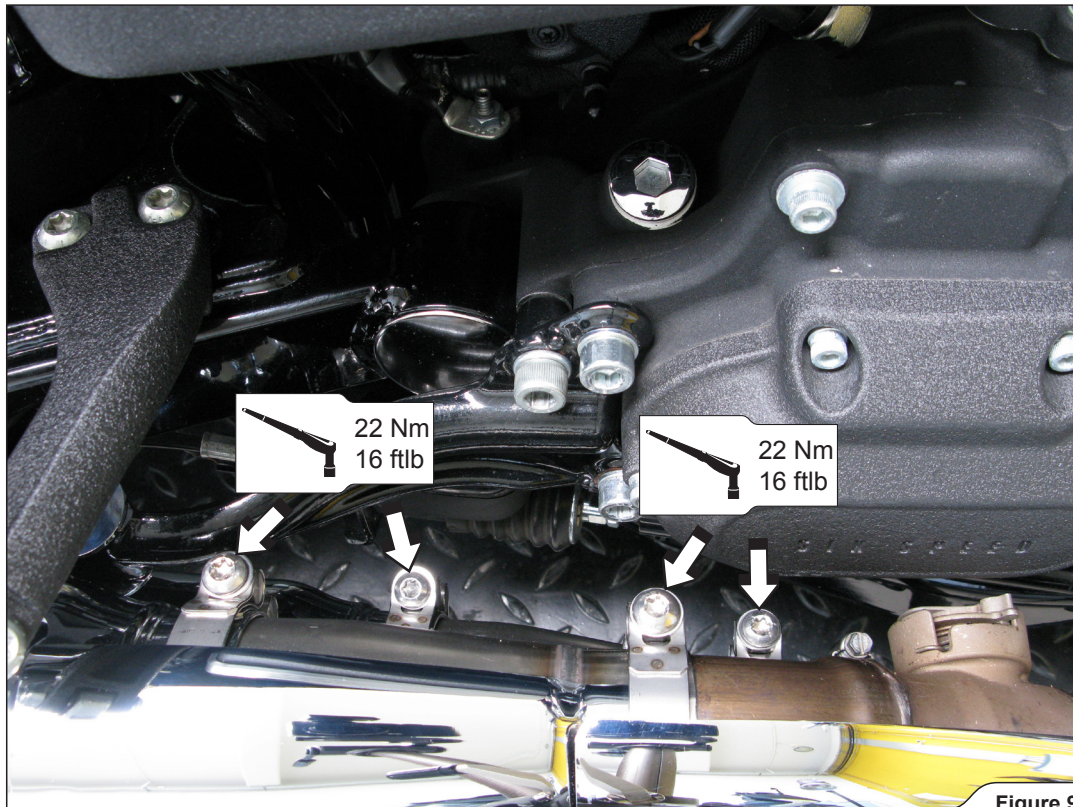

Figure 9
4. Align and tighten the clamps to a specified torque (**Figure 9**).